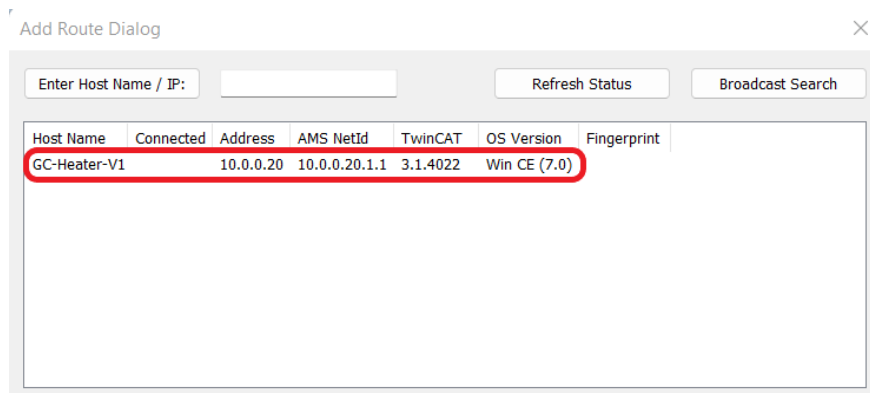

Figure 30: Static Routes – ‘Add Route Dialog’ window, controller found
- Any controllers the scan finds will appear in the ‘Add Route Dialog’ window once the scan completes. The scan may find items other than HEAT VIEW controllers if you left additional adapters enabled or have other similarly configured devices on your network. Only those listed as having a ‘Win CE (7.0)’ *OS Version* will be a HEAT VIEW controller. Figure 30 below shows that a single HEAT VIEW controller has been found by the scan; note that the field under the ‘Connected’ column is currently blank.